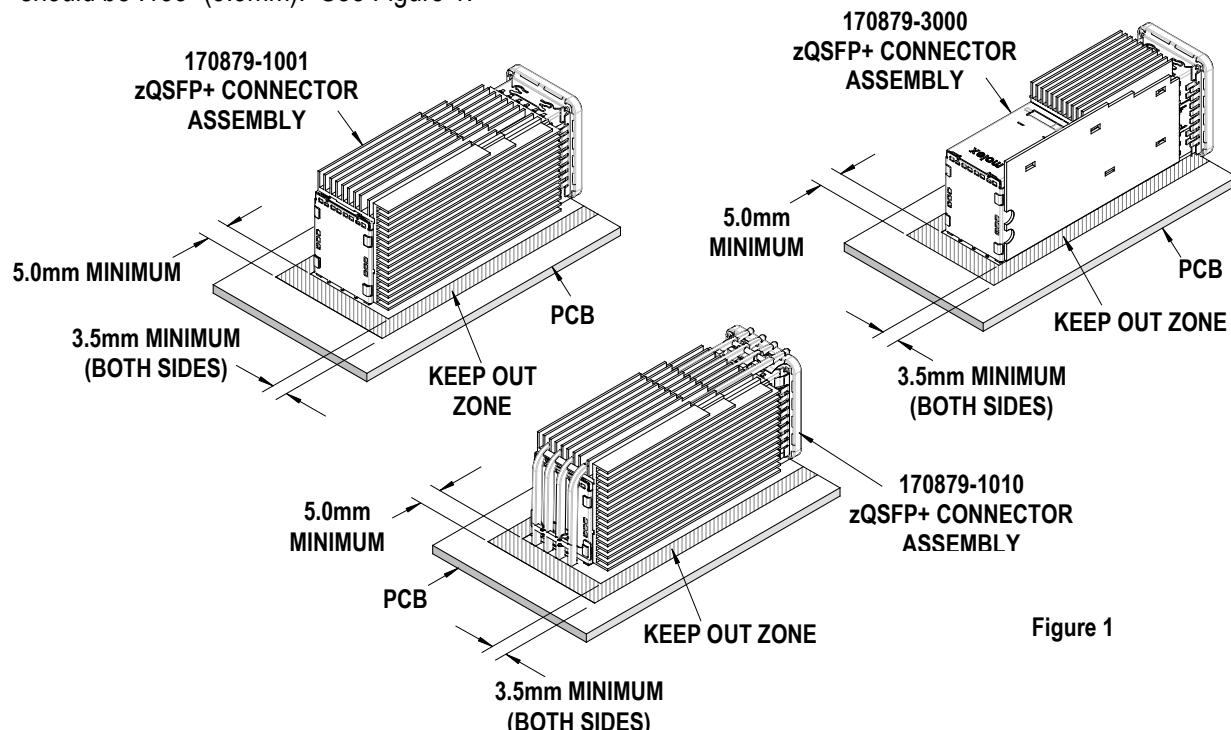

Figure 1
- These tools require a "Keep Out Zone" around the connector free of components. The right and left sides should be .138" (3.5mm). See Figure 1.